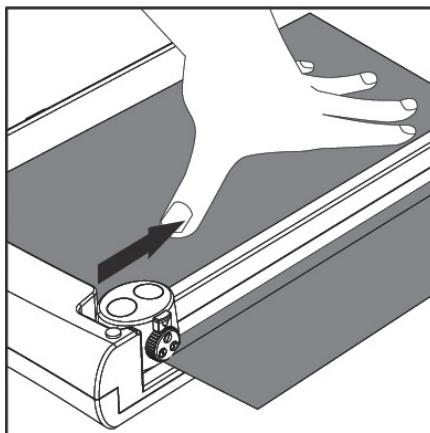

Figure 4
- Press the material to be trimmed with one hand. Press down on cutter head with the other hand and slide blade toward the other side of guide rail. (see Fig 4)